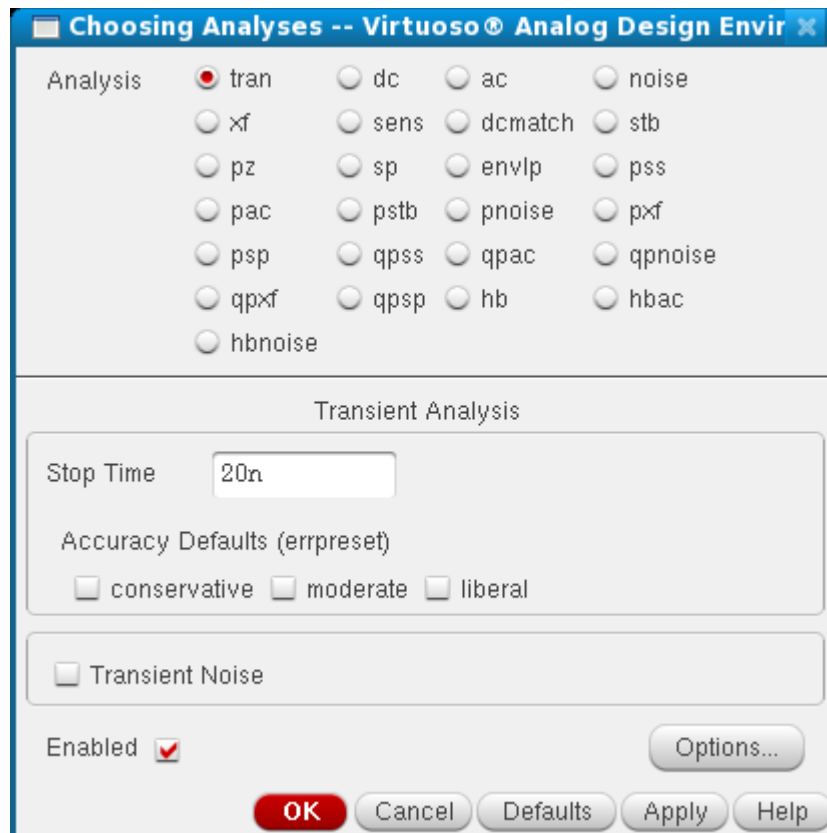

Figure 2: Transient Analysis
3. Choose a simulation type: go to **Analyses → Choose**. For Analysis select “tran” and for stop time type 20n that is twenty nanoseconds. Refer to figure 2.